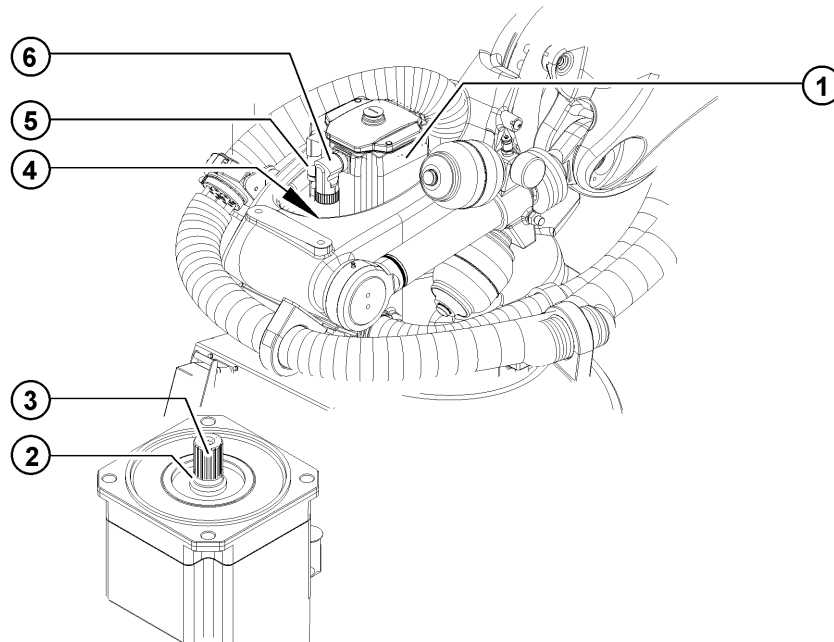

Fig. 11-2: Installing motor A1
1. Remove all protective coatings and oil from new motor A1, if applicable (>>> Fig. 11-2).